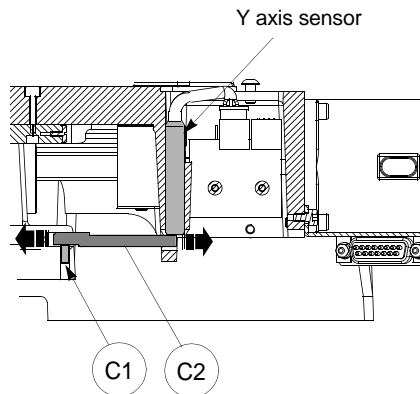

Fig. 121
- use the provided allen key to loosen the (C1) grub screw; manually rotate the (C2) rod (fig. 121) in both directions up until the changeover point from OFF to ON is found.